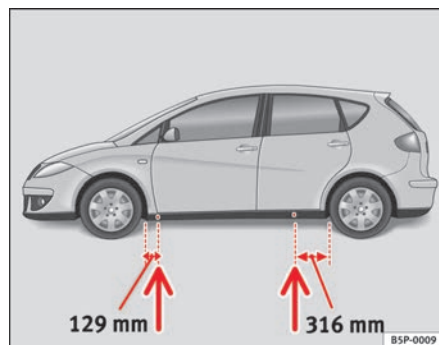

Fig. 176 The jacking points
- Locate the jacking point under the door sill closest to the wheel being changed ⇒ fig. 176.
Recesses at the front and rear of the door sills mark the jacking points ⇒ fig. 176. A position has been made for each wheel. Do not fit the jack anywhere else.